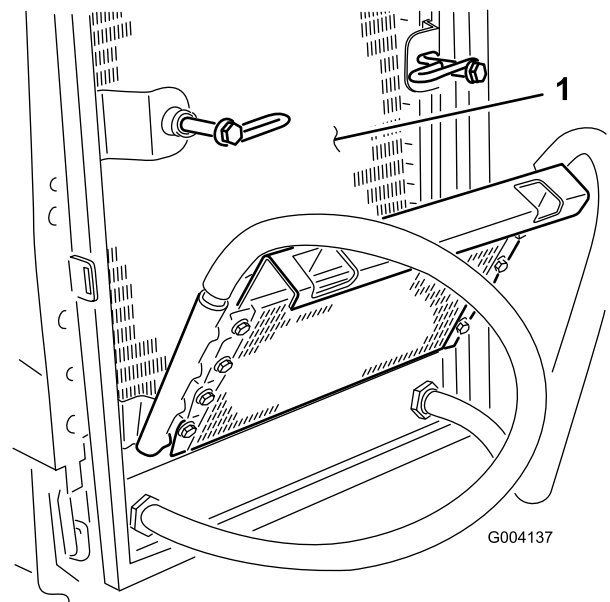

Figure 72
6. Thoroughly clean both sides of the oil cooler and the radiator (Figure 72) with compressed air.